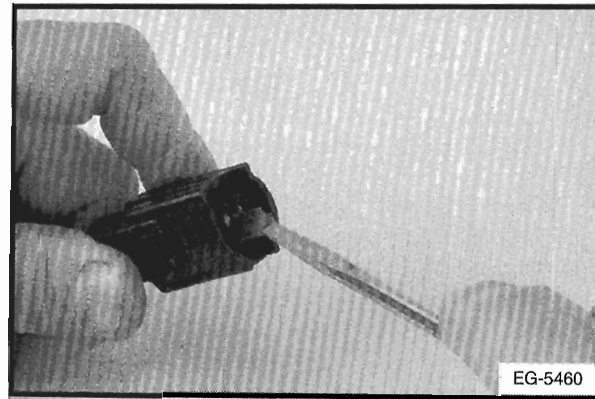

Figure 6-28. – Insert Terminal Lock
3. Insert the locking wedge and push in until flush with the face of the connector body (Figure 6-28.).